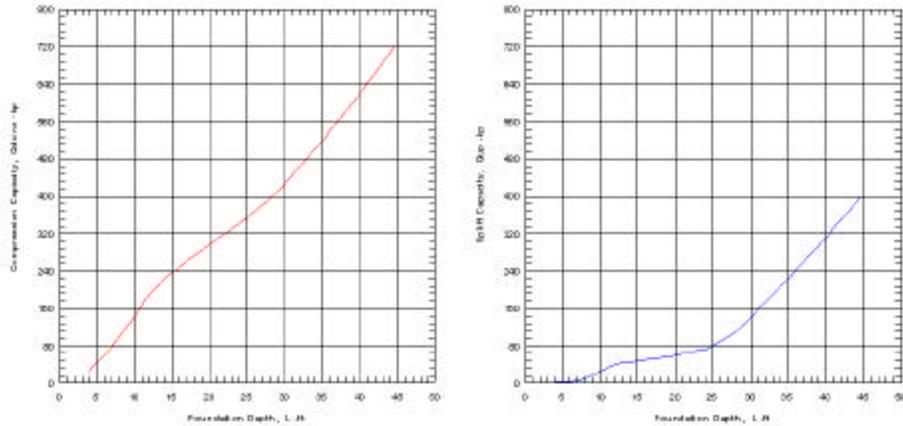

Figure 5-4. Capacity vs. Length
Press the [Capacity – Length] button to get the two diagrams shown on Figure 5-4. One is the downward capacity (Q_d) versus pile length (L). The other is the uplift capacity (Q_u) versus pile length (L). The start and end lengths can be specified in the two boxes below the button. Users can also choose to generate graphs for ultimate capacity or allowable capacity by checking the corresponding box below the button. The Factor of Safety can be defined on the advanced page.